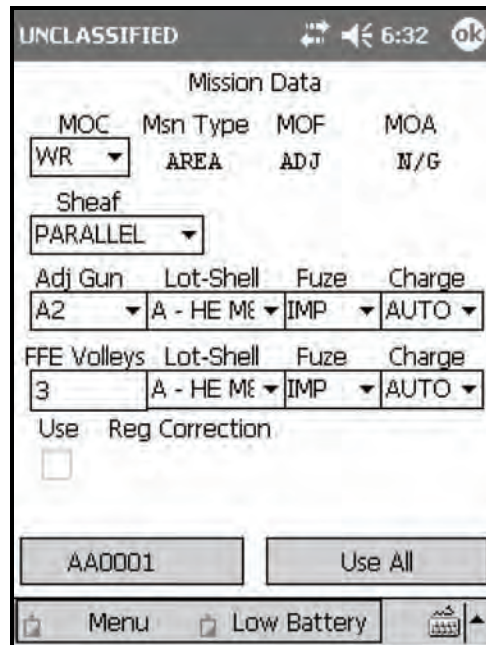

Figure 18-3. Mission Data screen.
(6) Select Use All.
(7) The Mission Data screen (Figure 18-3) displays. The Mission Data screen allows the operator to enter the method of control and gun/sheaf refinements.